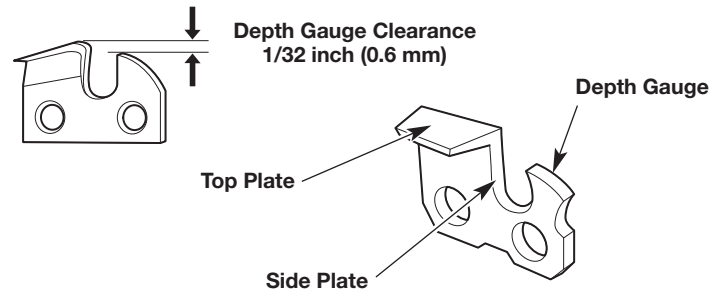

Fig. 33
- Keep the file level with the top plate of the cutter (Fig. 33). Do not let the file dip or rock. Use light, but firm pressure.